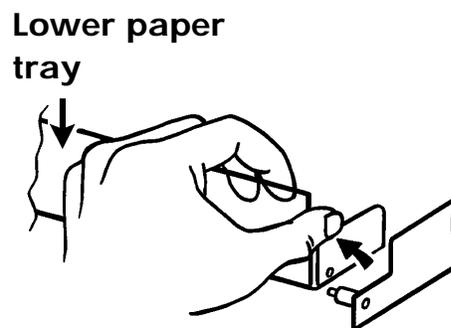

Figure 3 Lower paper tray removal
5. Applying gentle leftwards force* on the lower paper tray, disengage it from its right-hand locating pin, as shown in figure 3, and lift it out.